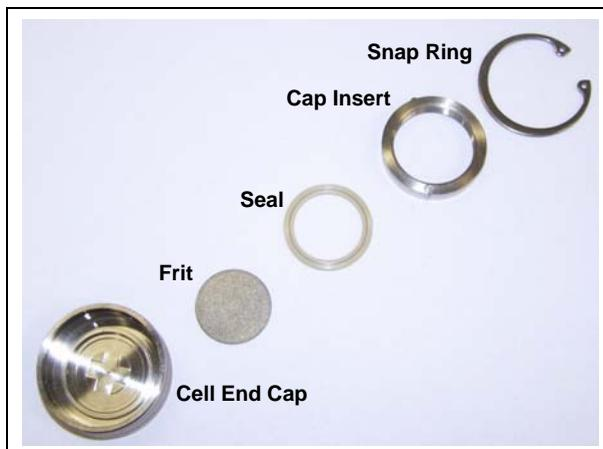

Figure 5-2. Cell End Cap Disassembled
3. Remove the cap insert (see Figure 5-2).